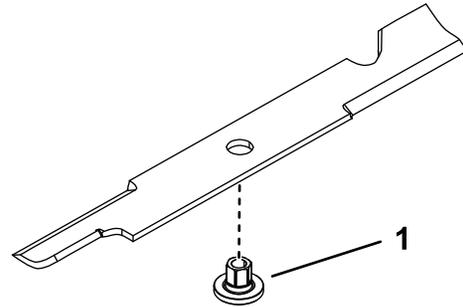

Figure 105
1. Install the bushing through the blade with the bushing flange on the bottom (grass) side of the blade (Figure 105).